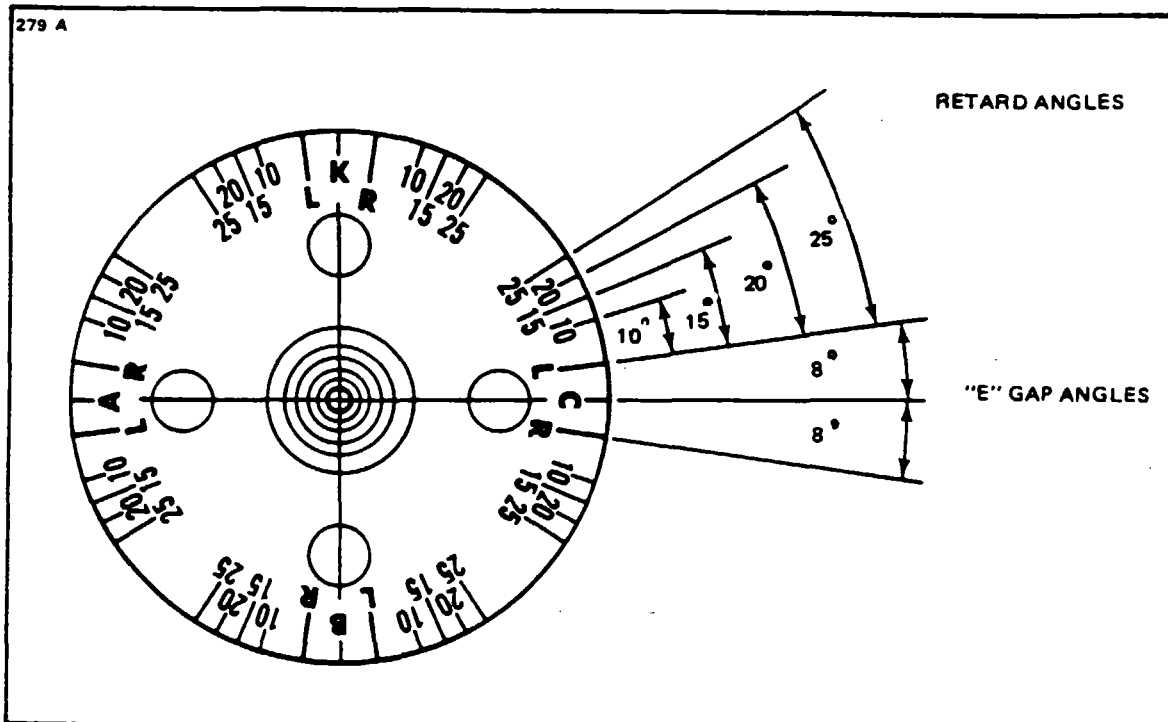
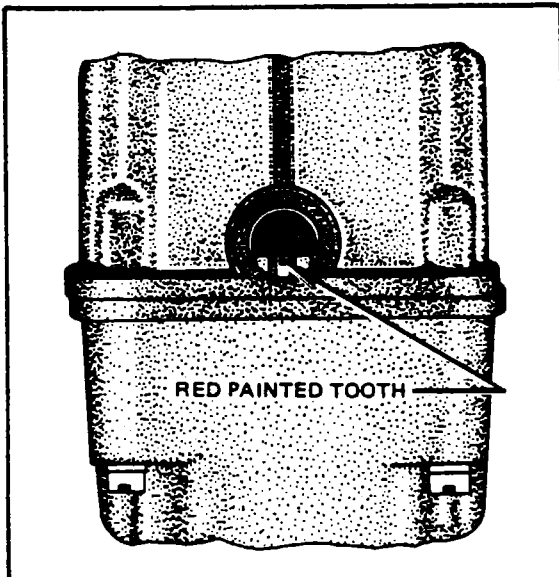
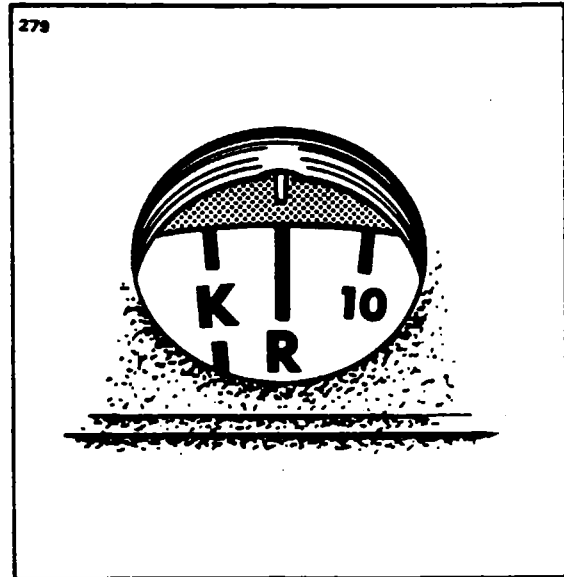

Figure 8-13. Timing Marks on Magneto Rotor
Figure 8-14. Painted Tooth Centered in Timing Window
Figure 8-15. Timing Mark on Rotor Aligned with Pointer
d. The magneto incorporates a built-in pointer and a degree wheel with sufficient reference to assist the mechanic in magneto timing procedures. Printed upon the rotating magnet are marks to indicate magneto neutral and magneto "E" gap (8°). (Refer to Figure 8-13.) Also included are retard angle references of 10, 15, 20 and 25 degrees. These marks are set up for either clockwise (R) or counterclockwise (L) rotation of the magneto as viewed from the magneto drive end. The timing tooth of each large distributor gear is marked with red paint. (Refer to Figure 8-14.)
f. Remove the plug from the distributor inspection windows at either end of the magneto housing. (Refer to Figure 8-14.) Also remove the plug from the "E" gap inspection window on the data plate side of the magneto housing. (Refer to Figure 8-15.)